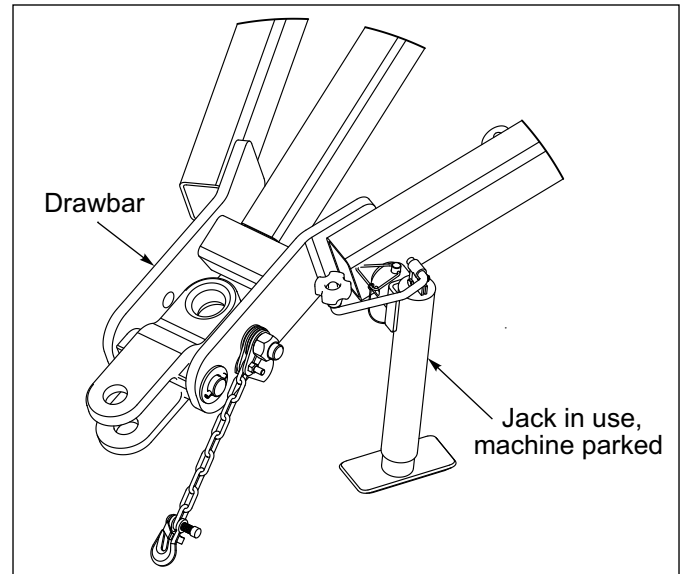
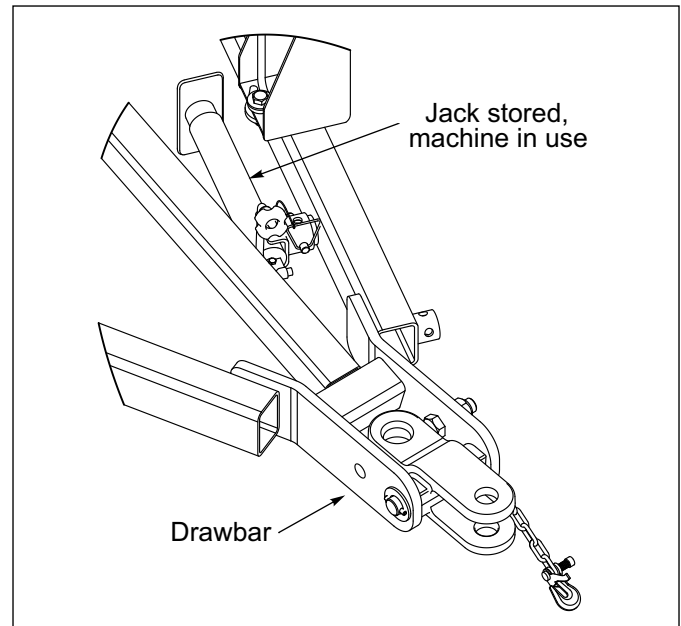

Figure 2-31: Jack in Use
Figure 2-32: Jack Stored
4. Attach the Jack to the drawbar front outside sleeve when the machine is parked. **See Figure 2-31.** When the machine is in use, move the Jack to the drawbar front inside sleeve. **See Figure 2-32.**